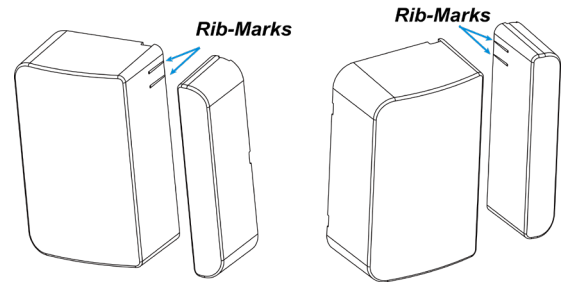

Figure 2
- The rib marks on the magnet and Door Contact must align. (Figure 2)